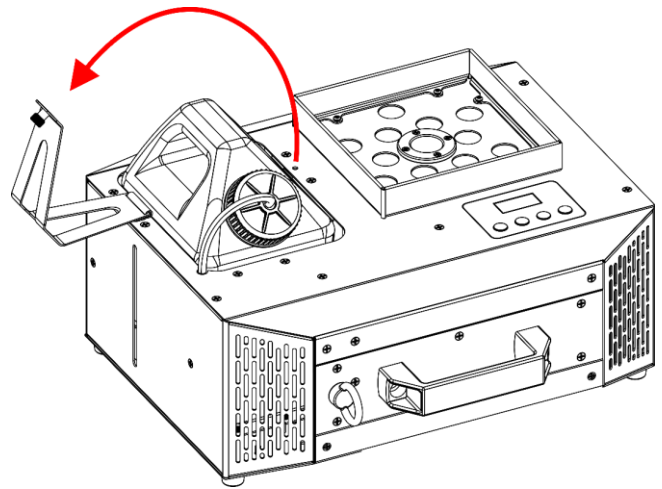

Fig. 29
- 03) Tilt the **bracket for liquid tank (03)**, as shown in Fig. 29.